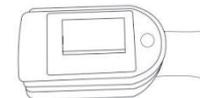

Figure 5 Put finger in position
⚠ The finger should be placed correctly (see Attached figure 5), as improper installation or improper contact position for sensor will influence the measurement.
- 2) Open the clip as shown in Figure 5.